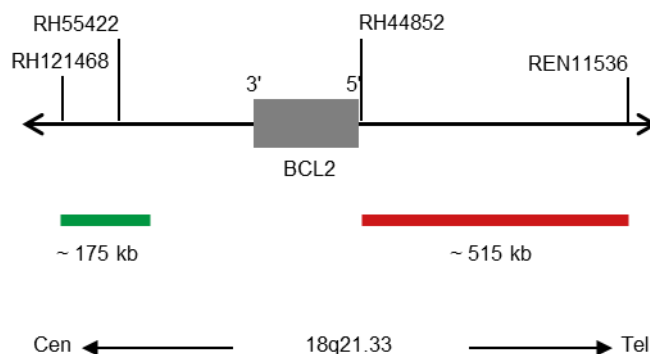

Fig. 1: SPEC BCL2 probe map (not to scale)
- Digoxigenin-labeled polynucleotides (~0.50 ng/μl), which target sequences mapping in 18q21.33* (chr18:60,415,418-60,589,273) proximal to the BCL2 breakpoint region (see Fig. 1).
- Dinitrophenyl-labeled polynucleotides (~0.75 ng/μl), which target sequences mapping in 18q21.33* (chr18:60,994,528-61,507,691) distal to the BCL2 breakpoint region (see Fig. 1).